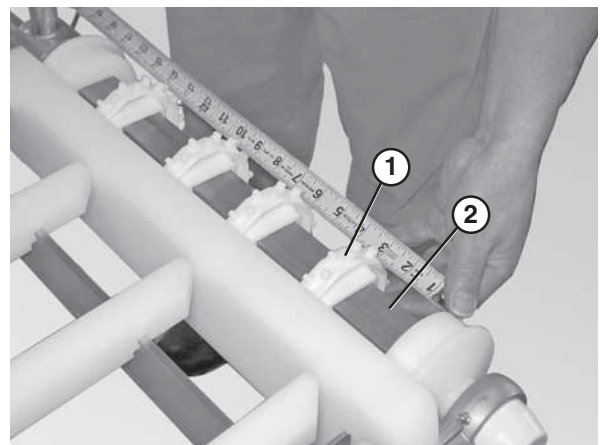

Figure 44
2. Evenly space the sprockets (Figure 44, item 1) along the drive spindle (Figure 44, item 2).
3. Wrap the belt around the conveyor, making sure the sprocket teeth (Figure 44, item 1) have engaged the belt.